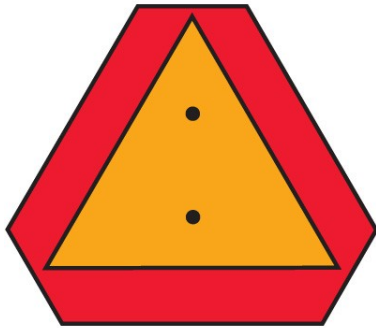

Figure 3-15: SMV Sign
12. Transport during daylight hours whenever possible. Always use flashing warning lights, except where such use is prohibited by law. Make sure lights, reflectors and SMV emblem are clearly visible and operating. Remove any obstructions such as dirt, mud, stalks or residue that restricts view before transporting. **See Figure 3-15.**